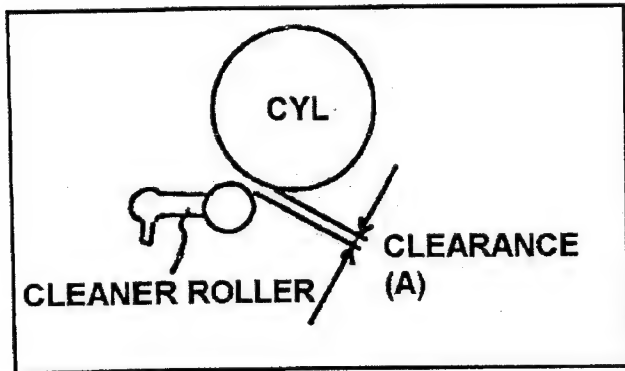

Fig. M22
1. Observe the clearance (A) between Cleaner Roller and Cylinder Unit as shown in Figure M22. And make sure that it is within 1.0 to 1.2mm.
2. If not, loosen the 2 screws (B) and adjust the position of Cleaner Base Plate by moving to arrow direction (A ⇌ A) with the Eccentric Driver so that the clearance (A) is within specification. And tighten the 2 screws (B).